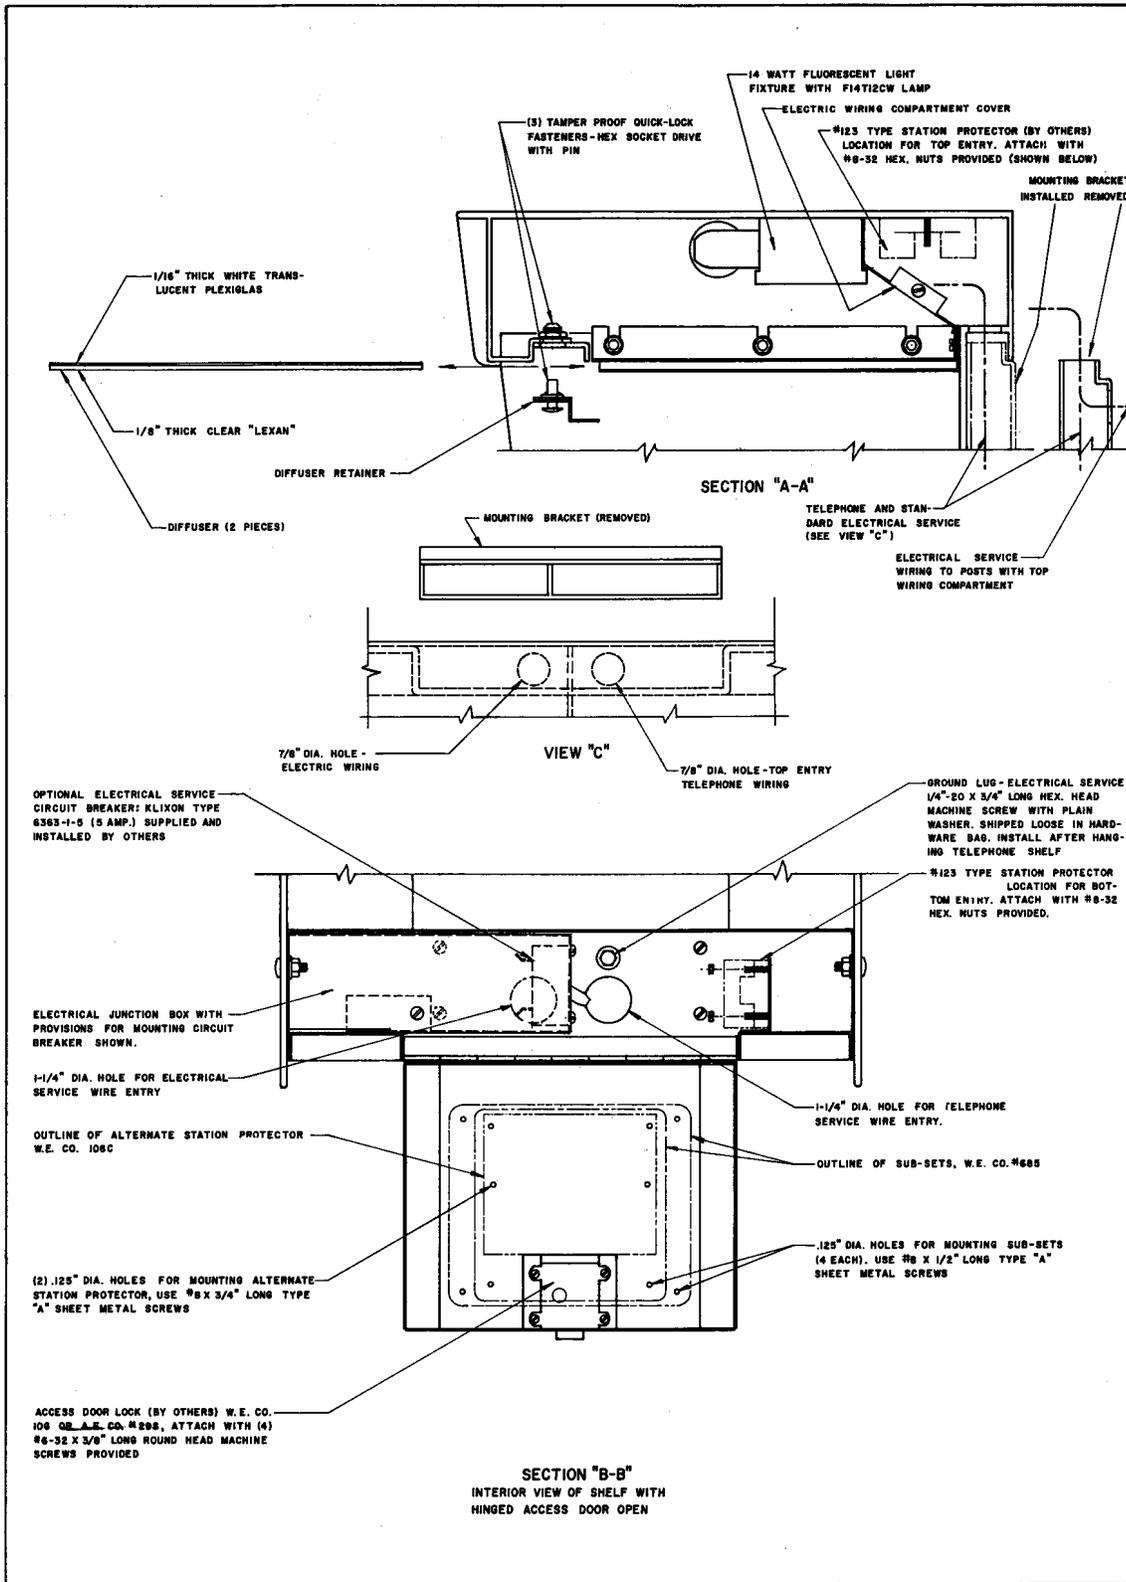

Fig. 8
6.03 Lamps may be replaced by unlocking the diffuser latch shown in Fig. 8. Replacement lamps are ordered as follows: